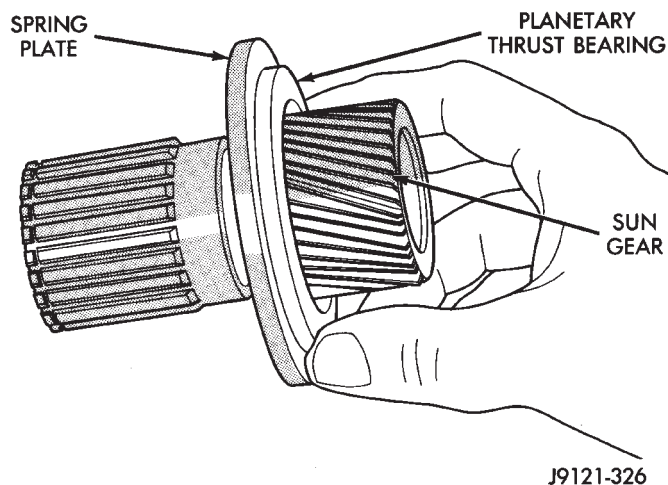

Fig. 227 Planetary Thrust Bearing Installation
(13) Install planetary thrust bearing on sun gear (Fig. 227). Slide bearing onto gear and seat it against spring plate as shown. **Bearing fits one way only. If it does not seat squarely against spring plate, remove and reposition bearing.**